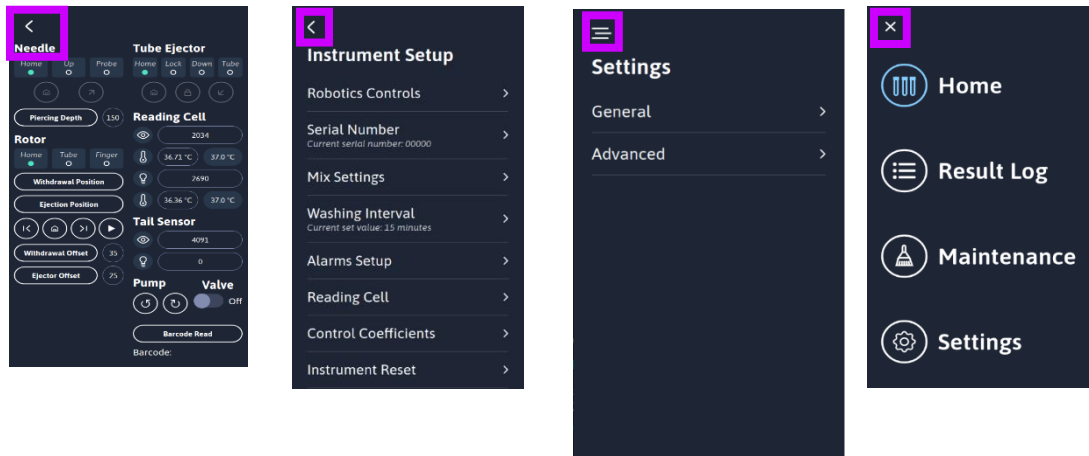

Figure 15
15. Press the “Back” buttons and go back to the “Options” screen as highlighted in pink in the following sequence of operations in Figure 15.